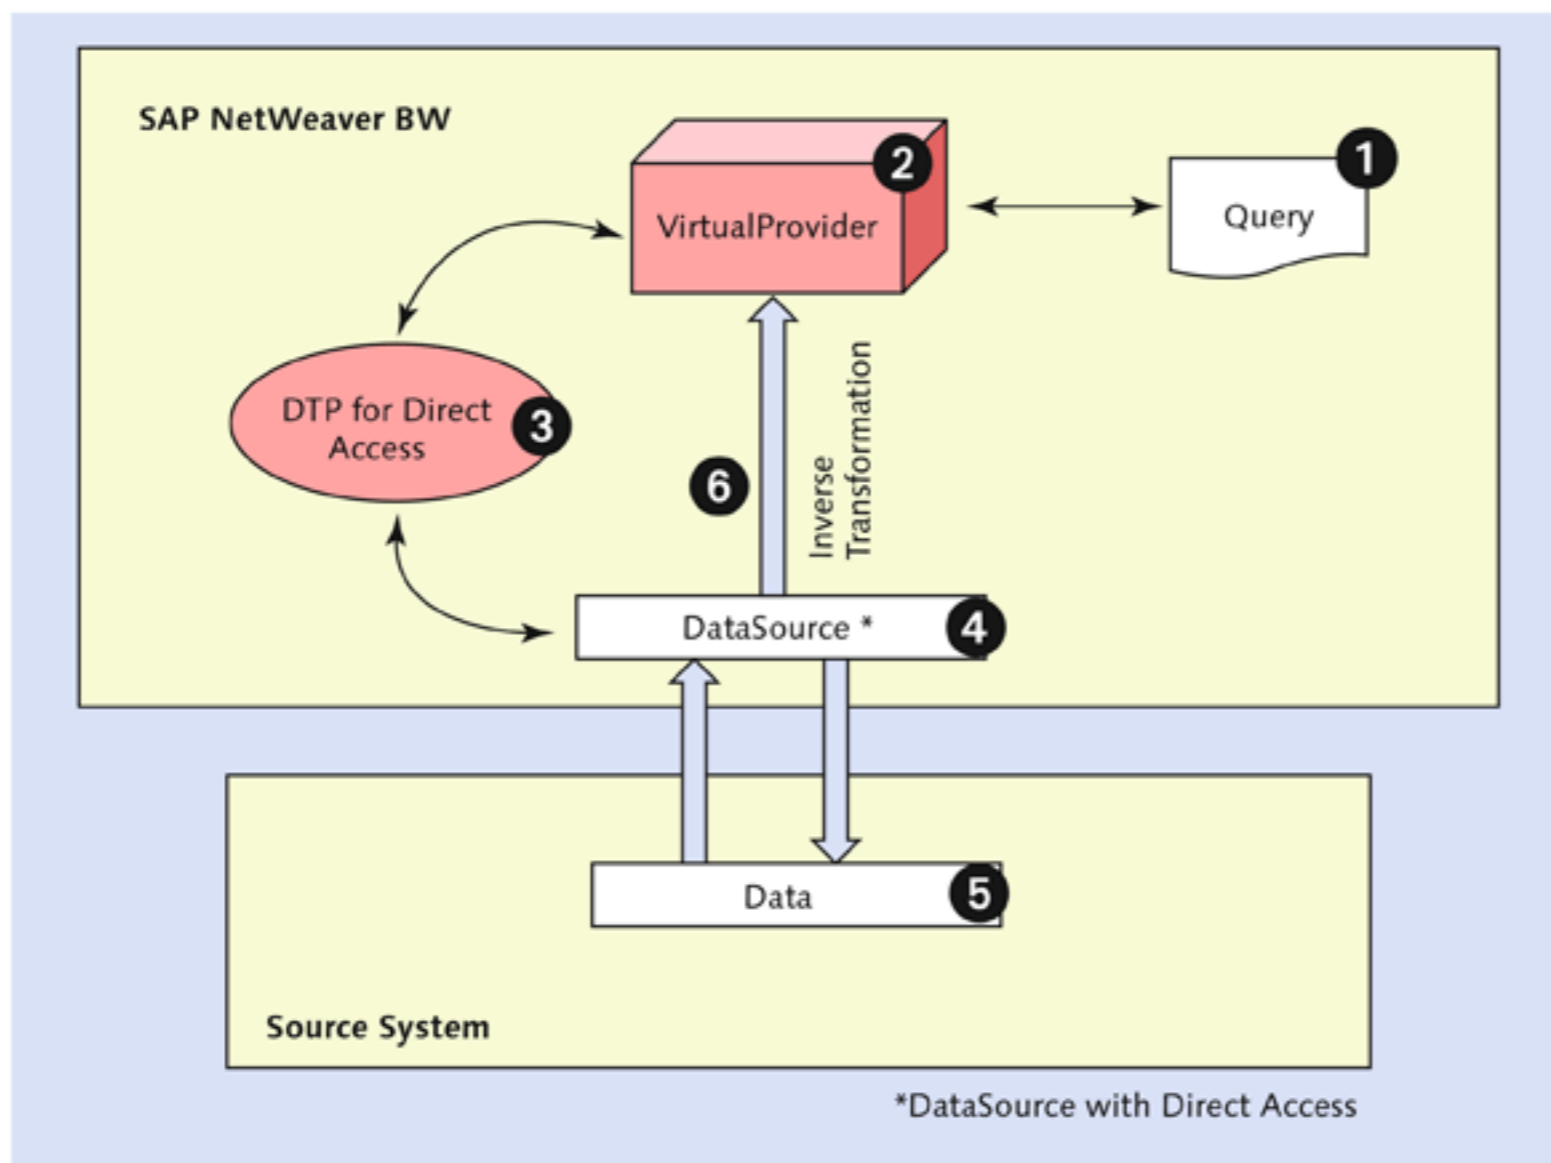

Figure 6.37 Illustration of VirtualProvider
Like the MultiProvider and the InfoSet, VirtualProviders exist only as a logical definition. However, it's conceptually different from its counterparts, because it doesn't source the data from existing data targets within the data warehouse, but accesses the data in real time from the source system (see Figure 6.37).
We'll now explain the processes that enable reporting using a VirtualProvider. For instance, if we execute a query (see ❶ of Figure 6.37), the query is based on a VirtualProvider (❷). The data for this query is then accessed in real time from the source system, using the direct access type data source (❸). The data is read from the source system (❹) and passed back to the query using the transformation (❺) and DTP for direct access (❻). Every navigation step in the query is a new process for reaching back to the source system for acquiring the relevant data set and relaying it to the query. The entire process of ETL happens in real time, and the data is converted to information and presented in the report. You can include the query variables to filter the data to be read from the source system. When a query is executed, the variable values are passed to the DataSource using inverse transformation.